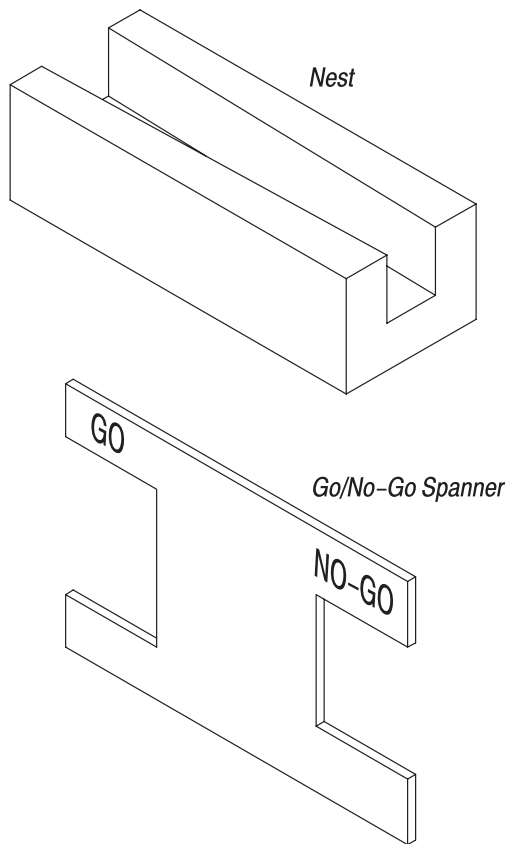

Figure 1
2. DESCRIPTION (Figure 1)
- Added dimensions and nomenclature to Figures 1 and 2